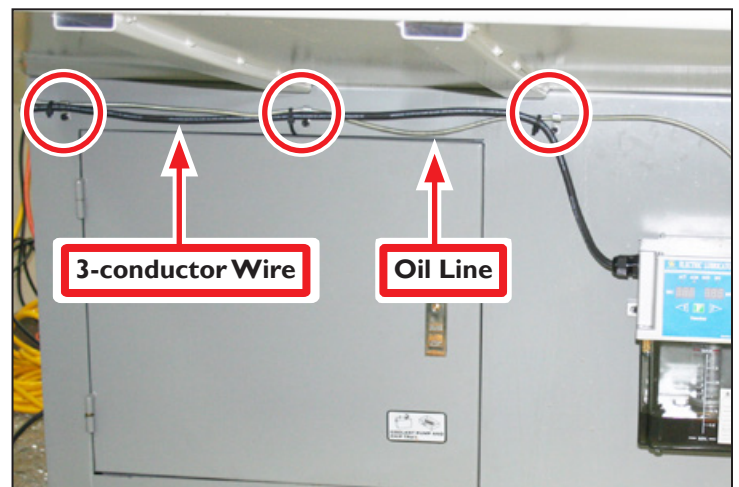

Figure 4
4. Using four Steel One-hole Clamps, route oil line around back of mill under chip pan (see **Figure 4**); this routing ensures that oil line does not come in contact with any moving parts.
5. Using cable ties (or similar), route 3-conductor Wire from automatic oiler around back of mill together with oil line (see **Figure 4**).